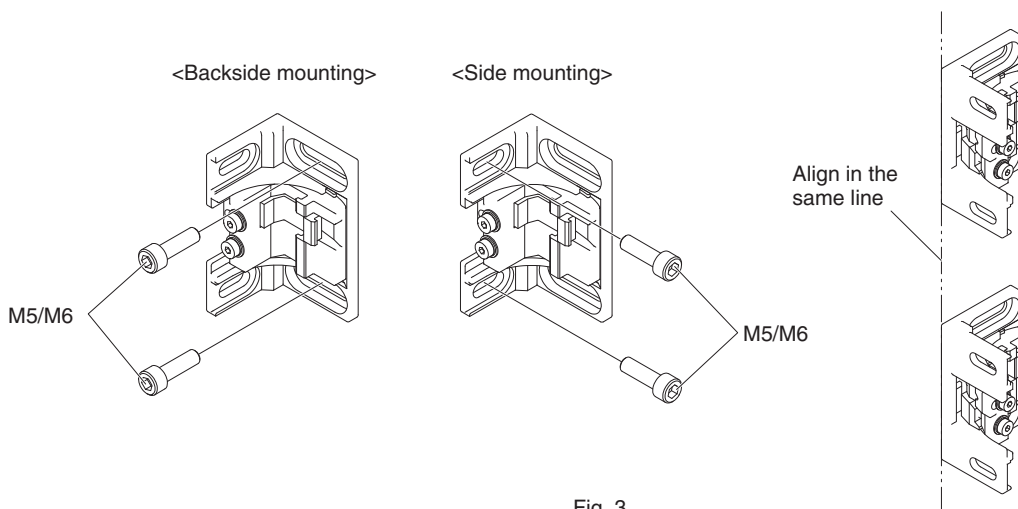

Fig. 3
- Securely tighten screws to fix the Adjustable Side-Mount Bracket to the mounting position of the wall surface. When using more than one Adjustable Side-Mount Brackets, align them in the same line using the sides of the brackets that do not face the wall, before attaching the brackets to the sensor. (Fig. 3)